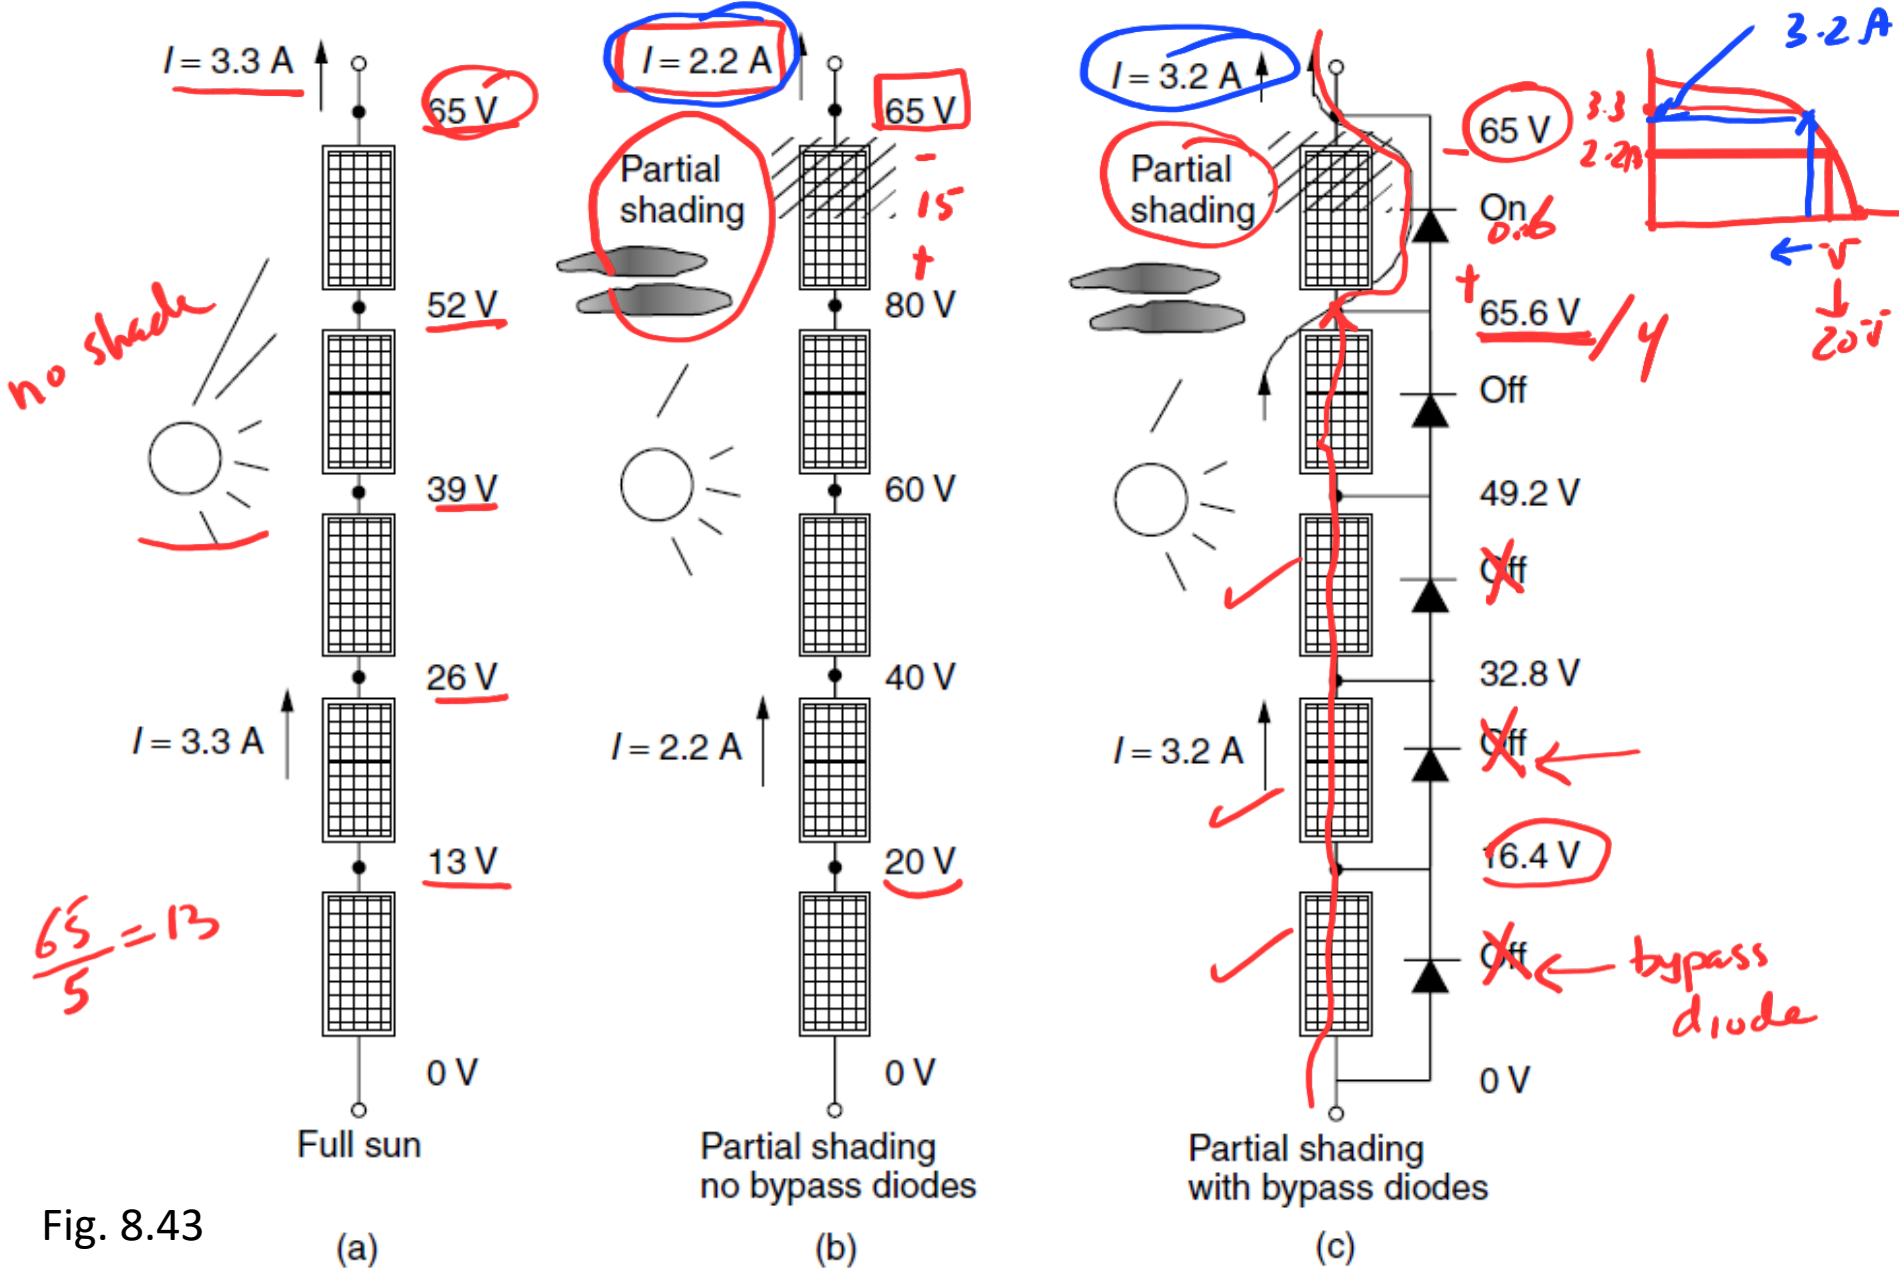

Fig. 8.43
- Figure 8.43 (previous slide) helps explain how the bypass diodes do their job. Imagine five modules, wired in series, connected to a battery that forces the modules to operate at 65 V.